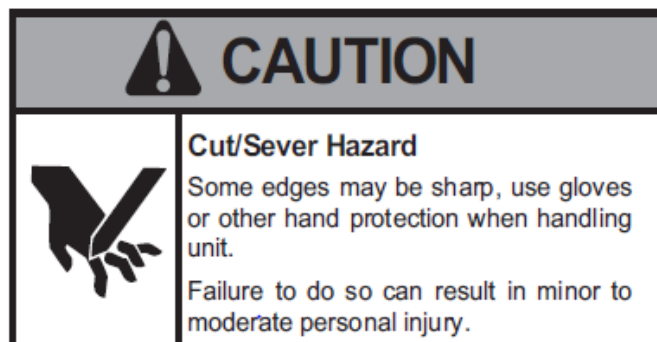

Figure 3
- Check pitch of sleeve. Must be pitched at least 1/2 bubble (.35"/ft) to outside. (Figure 3)